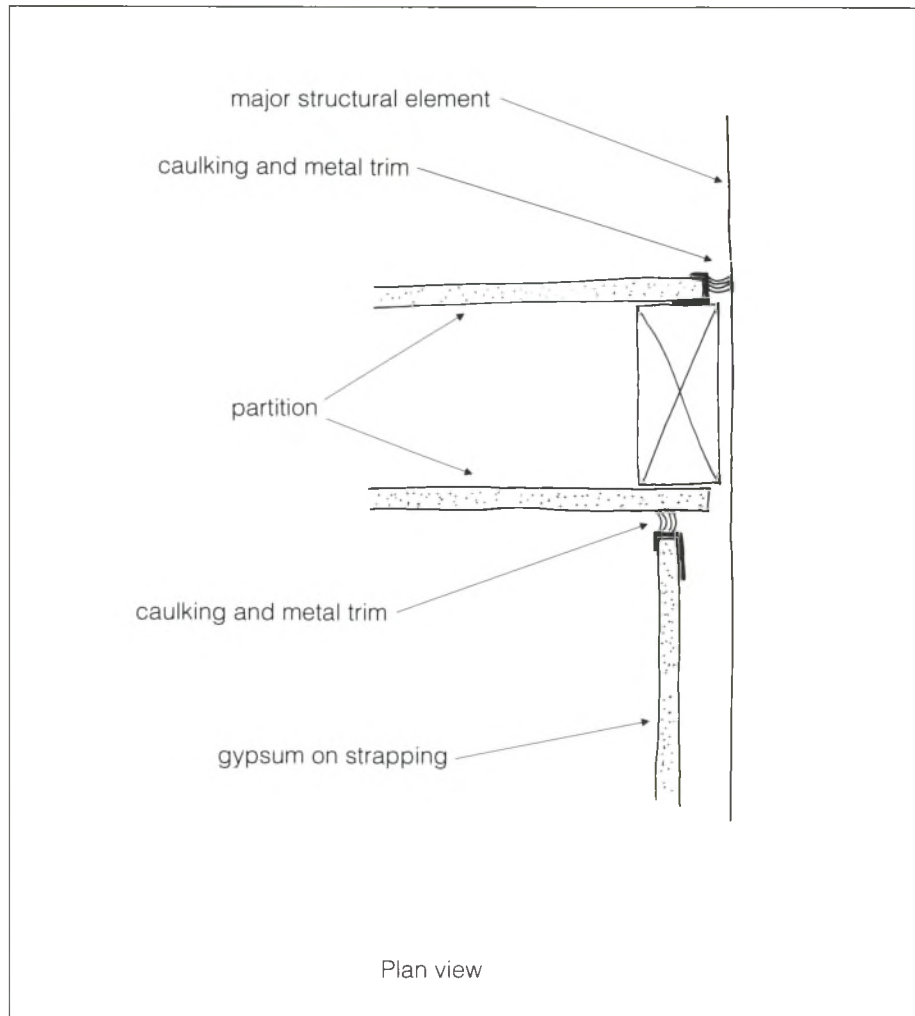

Fig. 14. Typical relief joints
- Manufacturers recommend using control to relief joints where partitions meet major structural elements (*fig. 14*).